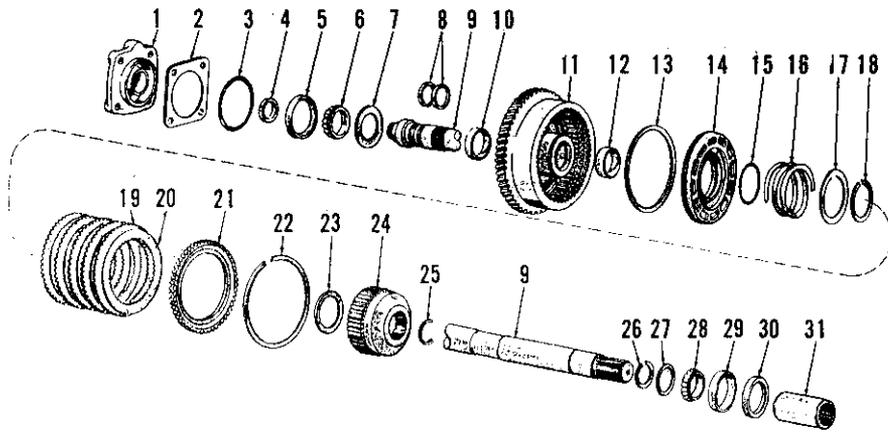

Fig. 305—Exploded view of single speed PTO clutch and shaft assembly. Refer to Fig. 306 for 2-speed PTO clutch.
Fig. 306—Exploded view of two-speed PTO clutch and shaft assemblies. Lower countershaft (29A) is for model 4000; other models use shaft (29). Refer to Fig. 305 for single speed PTO.
To remove the single speed PTO clutch, first remove the bearing cone and roller (28—Fig. 305), washer (27) and snap ring (26) from rear end of shaft (9). Using a small punch or screwdriver, drive the snap ring (25) out of groove on shaft behind the splined clutch hub (24). Then pull shaft forward out of clutch assembly and lift the clutch assembly from transmission.
Bushings (10 and 12—Fig. 305 or Fig. 306) in clutch housing are renewable. Inside diameter of new front bushing is 1.874-1.875; inside diameter of new rear bushing is 1.624-1.625. Bushings are pre-sized and reaming should not be necessary if carefully installed. For servicing remainder of clutch assembly, refer to paragraph 270.
After clutch is reassembled, stick the thrust washer (23—Fig. 305 or Fig. 306) in recess in front side of splined hub (24) of PTO clutch using light film
On single speed PTO, install thrust washer (7—Fig. 305) on front end of PTO shaft and press front bearing cone and roller (6) tightly against washer. Install two sealing rings (8) from rear end of shaft, lubricate the rings with petroleum jelly and align ring end gaps. Holding the splined hub in clutch assembly, place clutch in transmission and insert shaft through clutch with sealing ring end gaps at top of shaft. When thrust washer (7) is against clutch housing, drive the snap ring (25) around shaft into groove at rear of splined hub. Install the snap ring (26), washer (27) and bearing cone and roller (28) on rear end of shaft.
**278. PTO SHAFT END PLAY (BEARING PRELOAD).** End play (bearing preload) of the power take-off clutch and shaft unit is controlled by varying the thickness of the shim stack (2—Fig. 305 or 306) between the transmission front cover (pump adapter plate) and the PTO front bearing retainer (1). Shims are available in thicknesses of 0.002, 0.003, 0.010 and 0.030. Check bearing preload as follows: